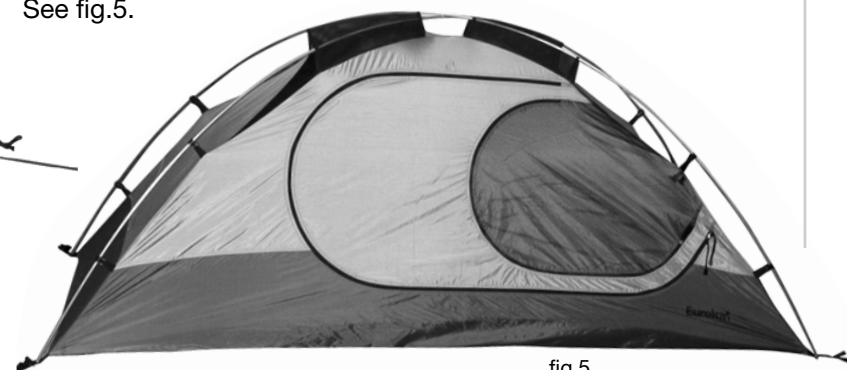

fig.5
- With the corner clips attached, square the tent. Use a metal skewer to stake out each corner web. See fig.5.